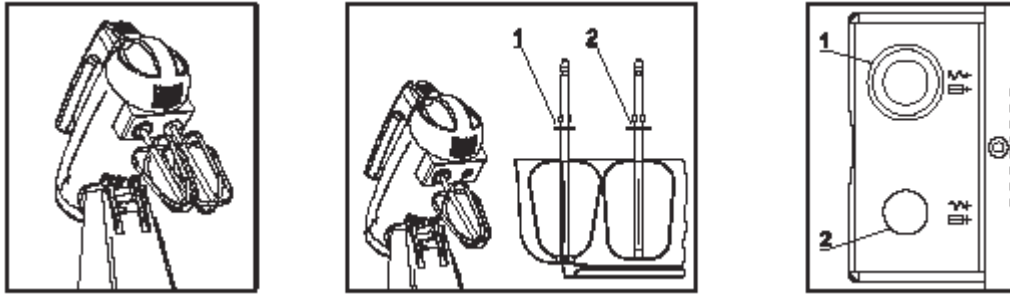

Figure 5: Attaching Beaters to the Mixer Head.
7. **Follow these instructions, as illustrated in Figure 5 above, when inserting beaters because each beater only fits in its proper socket and improper usage will not give you a maximum effect.**